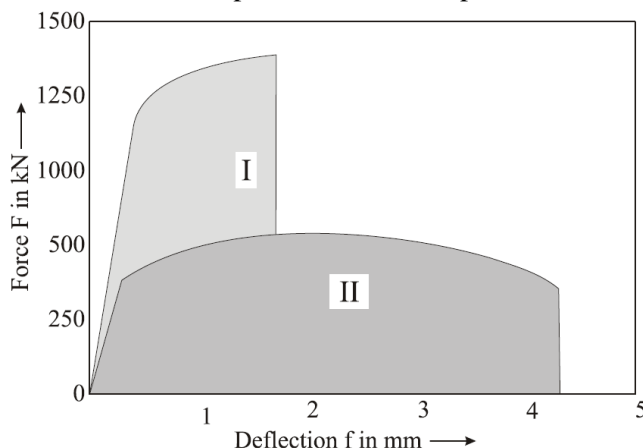

Figure 1 Force–deflection curves for the Charpy test. [1]
2.4 The force–deflection curves of two Charpy impact tests are shown in Figure 1. Both of the tests were performed at 30°C. The areas under these two curves are the same, i.e. I=II. Which steel shall have a lower transition temperature? Please explain the reason.